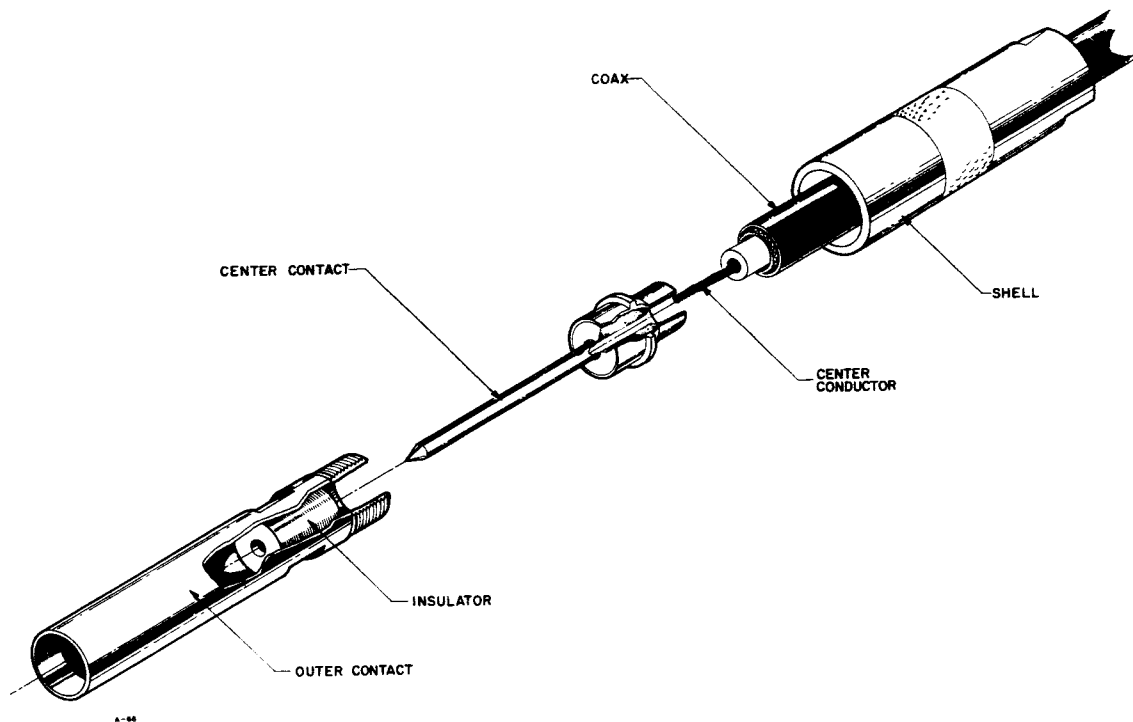

FIGURE 5-14. PATCH CORD ASSEMBLY
a. PATCH CORDS. -Refer to Figure 5-14 for exploded view of the patch board connector. Use RG 223 coaxial cable or equivalent if cable is damaged.
Figures 5-14 through 5-35 identify and locate each item in the cabinets, and antenna couplers within the various antenna coupler groups.